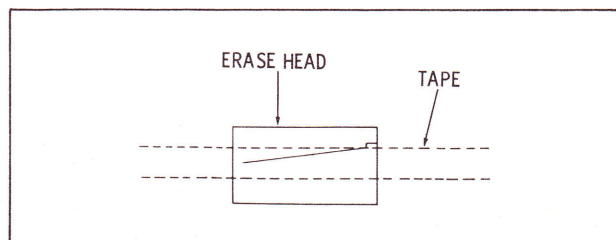

Fig. 3. Erase head tape path.
2. With front escutcheon (15) and rear escutcheon (9) removed, check erase head (43) to see if it is parallel with the tape.
3. Check to see if the top edge of the tape coincides with the top end of the diagonal slot in the erase head (junction of long diagonal slot and short vertical slot). See Figure 3. To adjust the level of the tape, loosen set screw (35) and rotate tape guide post (36) to move tape up or down. See Exploded View.